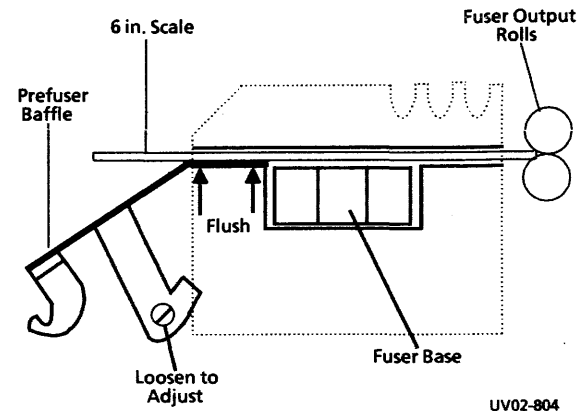

Figure 3-30. Pre-Fuser Baffle Alignment
8. Remove Fuser to slide out front shim, reinstall Fuser and align the Pre-fuser Baffle. (Figure 3-30)